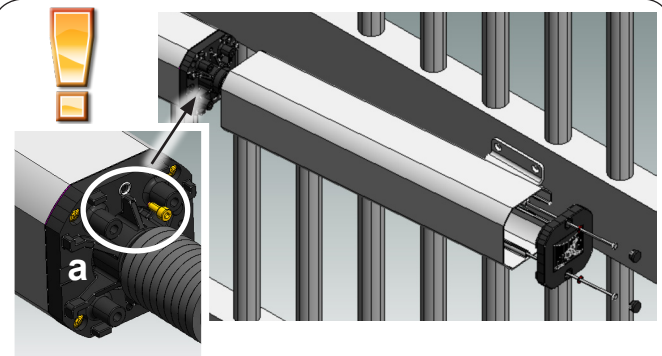

Fig. 16
16. Remove the bleed screw (Fig. 16 Ref. a) paying special attention to leave the sealing O-Ring in its seat.
17. Install the metallic protection cover as shown in Fig. 16, insert and tighten both tie-rods.